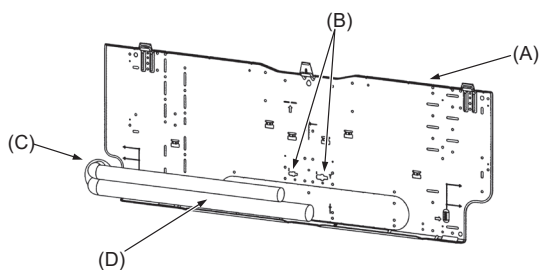

Fig. 3-5
- (A) Min. 120 mm, 4-11/16 in. (617.6 mm, 24-5/16 in. or greater with optional drain pump installation)
- (B) Min. 220 mm, 8-11/16 in.
- (C) Min. 70 mm, 2-3/4 in. (130 mm, 5-1/8 in. or greater with left, rear left, or lower left piping, and optional drain pump installation)
- (D) Fixing screws (4 × 25) (2)
- (E) Level
- (F) Mount board (1)
3.3. When embedding pipes into the wall (Fig. 3-5)